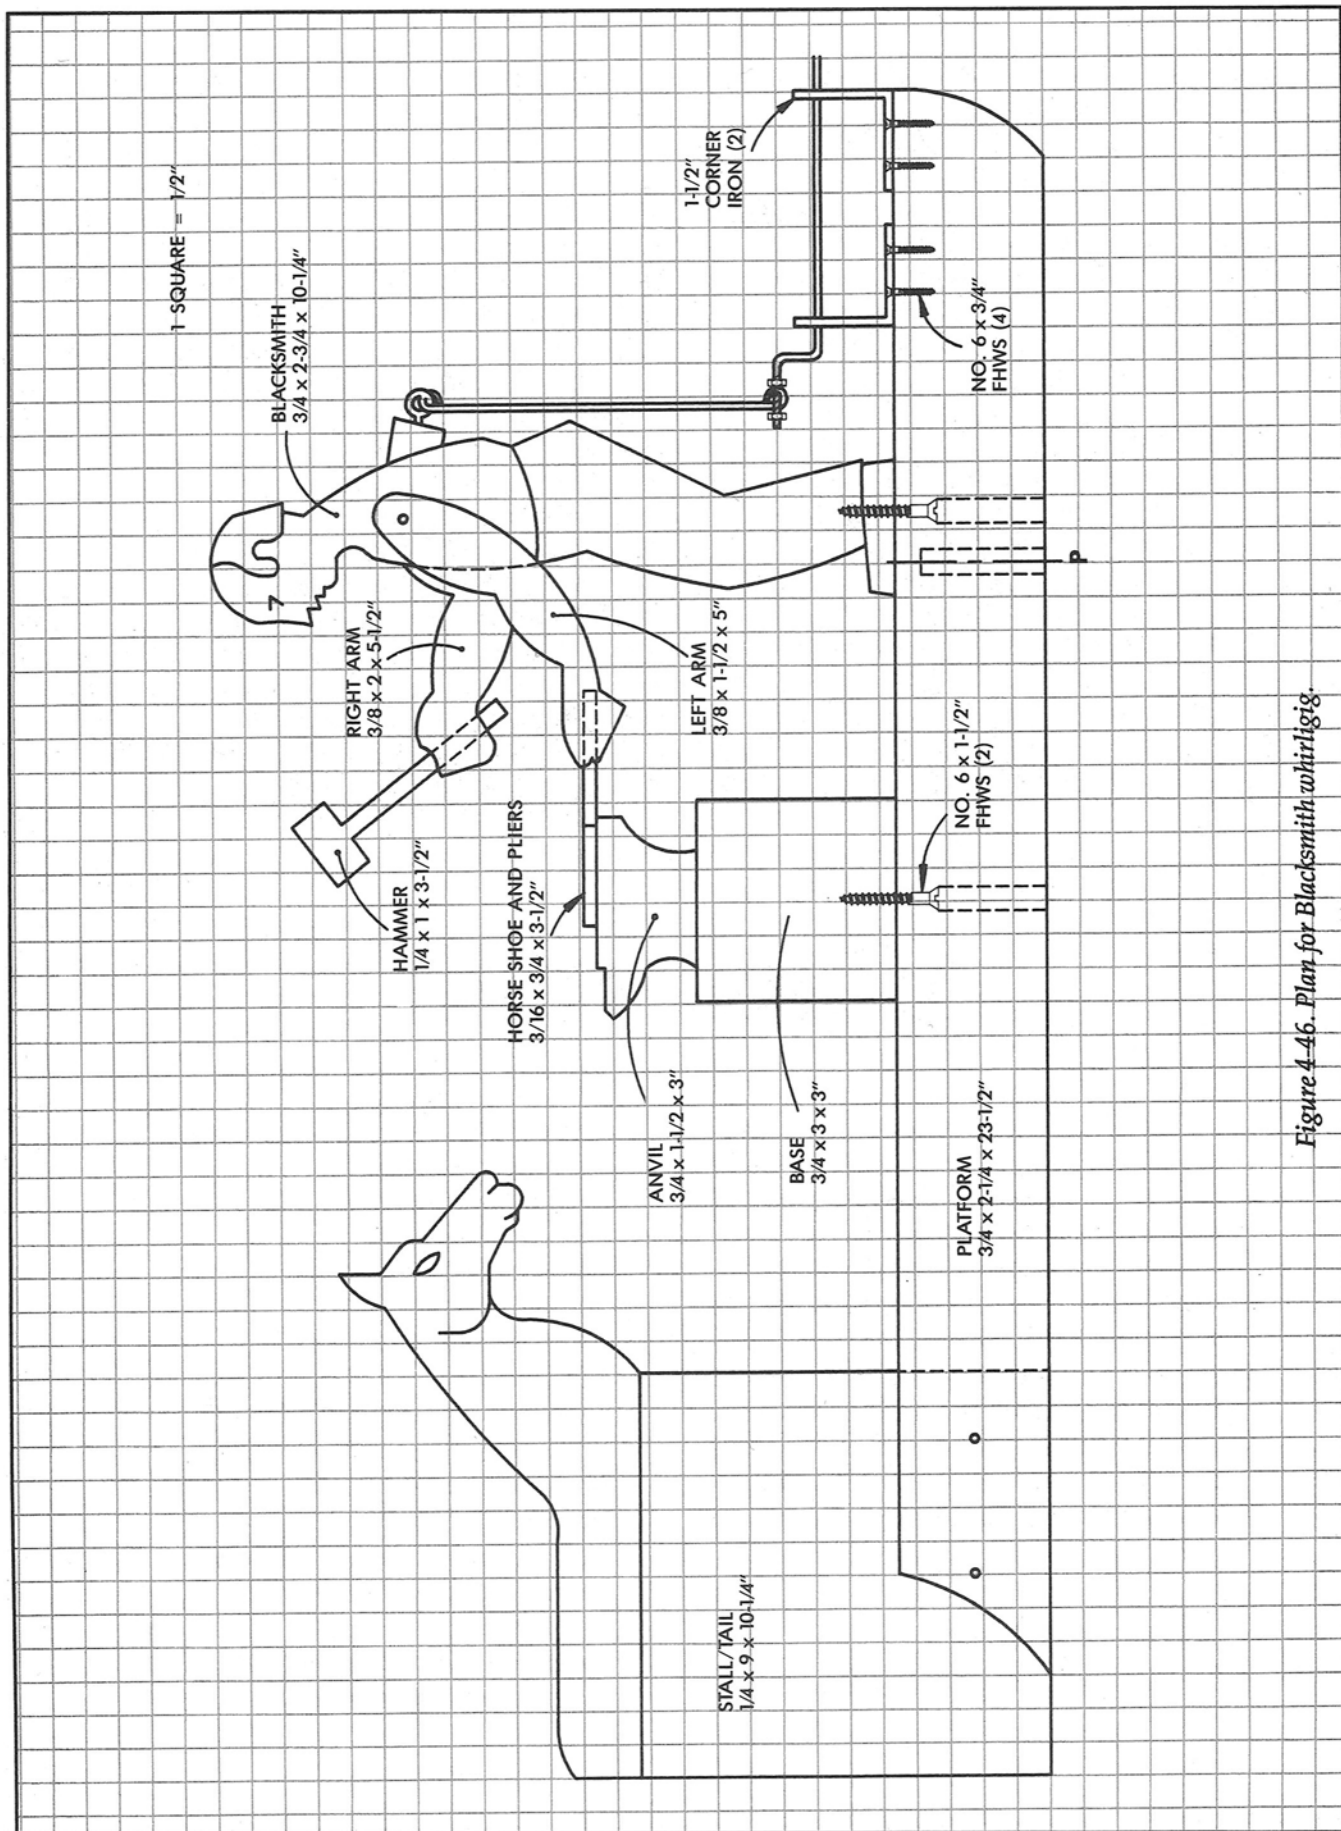

Figure 4-46. Plan for Blacksmith whirligig.
1. Cut out the platform and mark the location of the items (Fig. 4-46). Cut a 1/4 in. slot in 4-1/2 in. from the back of the platform for the tail. Drill a 3/8 in. hole for the pivot socket 7 in. from the front of the platform. Drill screw holes for the blacksmith at 6-1/4 in., and for the anvil/stand at 12 in from the front of the platform. Attach the corner irons.